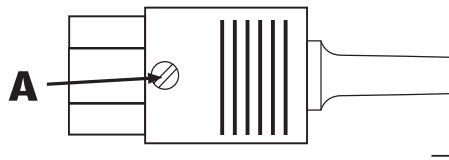

Figure 7. Illustration of IEC plug provided
An IEC connector is provided to connect a mains lead to the power supply (shown in figure 7).
- Remove the top from the IEC connector by turning the screw indicated with an **A** in figure 7 anticlockwise using an appropriate screwdriver.
- Refit the lid and tighten down using the screw labelled A in figure 7.